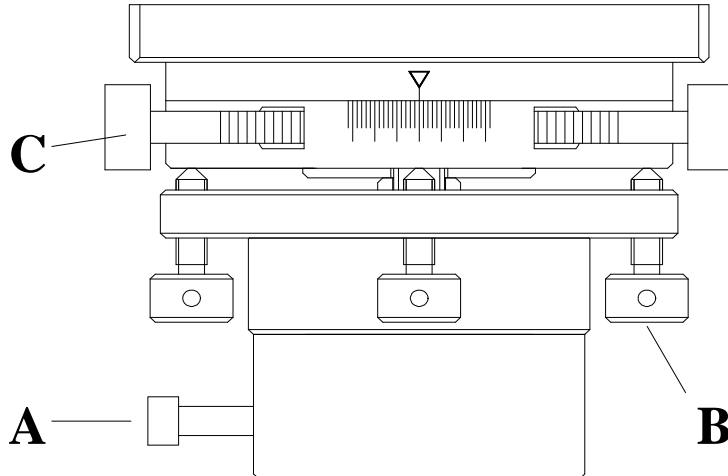

FIG. 6-1A
4. IT IS NECESSARY TO ADJUST B.C. SPECIAL SCREWS (AS FIG. 6-1A) WITH BALANCE, FOR EX: WHEN YOU LOOSE ONE OF B SCREWS, YOU HAVE TO TURN TIGHT THE OTHER B SCREW WHICH IS AT SYMMETRICAL SIDE .